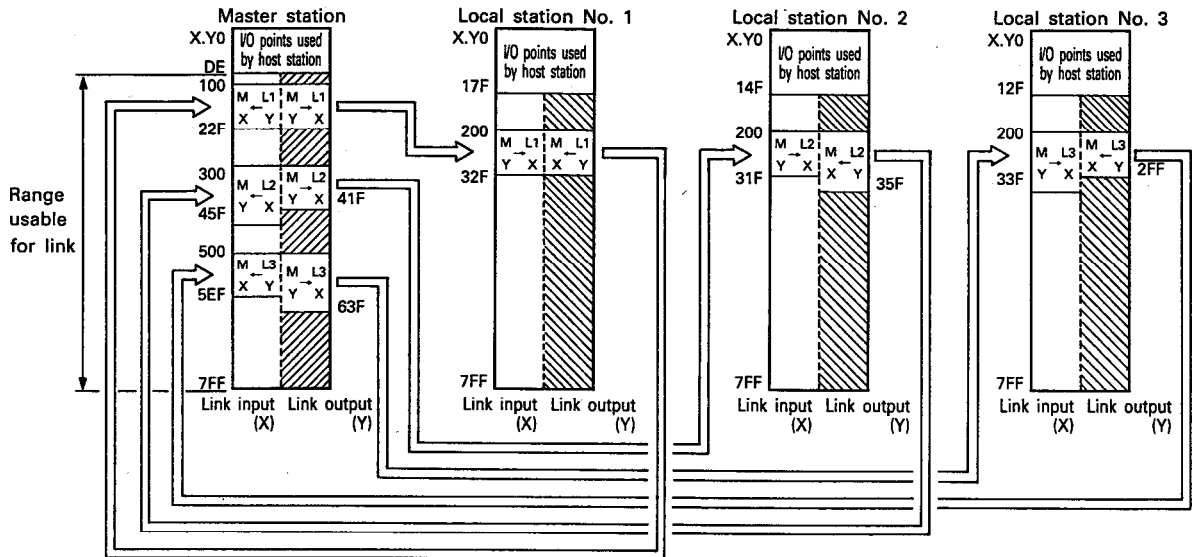

Fig. 6.5 Assignment Example
In the case of the master station shown in Fig. 6.5, the area from X.YE0 to 7FF can be used for the link input (X) and link output (Y) since the I/O and special function modules use X.Y0 to DF.
In the example shown in Fig. 6.5
- (e) The link output (Y)  portion of Fig. 6.5 can be used in each host station in the same manner as the internal relay (M).